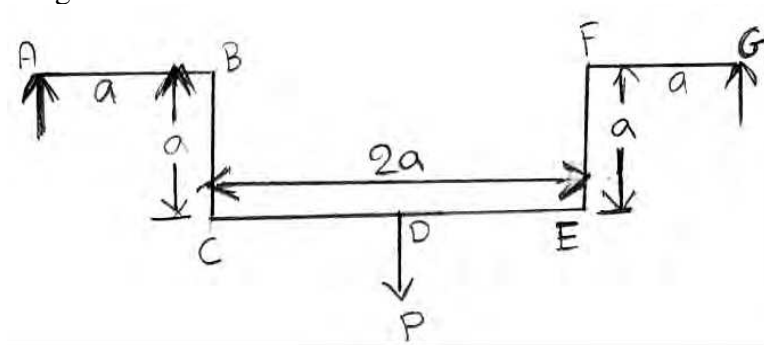

Figure 3:
3. Find the central deflection of the uniform bend ABCDEFG shown in figure 3 by using Castiglano theorem. [16]